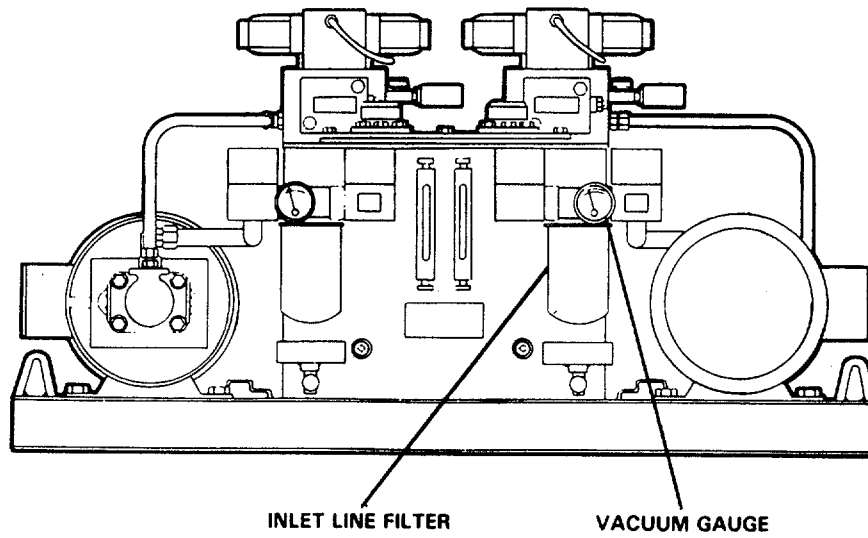

Figure 1-9. Pumpset Inlet Line Filter.
(1) Return Line Filter(FIGURES 1-9 and 1-11). This 30-gpm rated filter is installed in the suction line to each vane pump. The filter head diverts hydraulic oil through a spin-on disposable cartridge rated for 10-micron filtration. The head design incorporates the oil inlet port, the oil outlet port, a vacuum gauge, and an internal bypass valve, in addition to mounting dogs for the head and the mounting flange for the spin-on cartridge. A gauge reading of 10 inches of mercury (5 psi) indicates that the cartridge should be changed. The bypass opens somewhat above this value to safeguard the pump from cavitation.
(2) Pump Motors. Identical 10-horsepower electric motors drive the two vane pumps at 1800 rpm. The motors operate on 230-Vac, 3-phase, 60-Hz power from the motor control switchboard located in the engine control room. Backup power is provided from the emergency switchboard located in the emergency generator room. The shafts of each motor and pump are directly coupled.
(3) Vane Pump. The pump shaft and motor shaft are aligned and mechanically coupled. At the heart of this pump is a slotted rotor into which 12 sliding vanes are fitted. Because these precision vanes are replaceable drop-in elements, repair and overhaul are simplified.